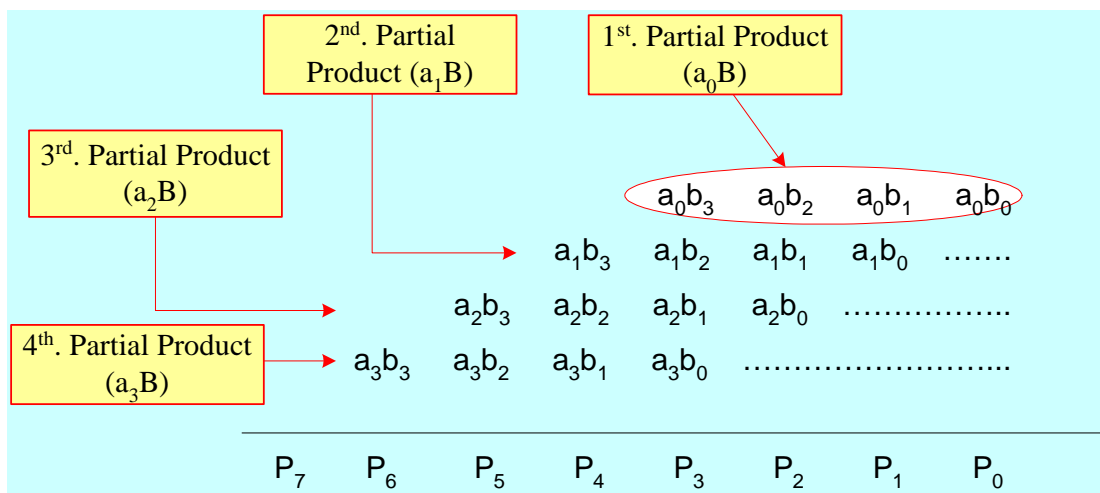

Figure 12.2: Binary Multiplication.
As in hand multiplication, we multiply the bits of the multiplier A ($a_3a_2a_1a_0$) by the multiplicand (B) starting from the LSB (a_0) to the MSB (a_3). This forms four partial products a_0B , a_1B , a_2B , and a_3B . The resulting partial products are added with each product shifted left by one bit position from its predecessor as shown in Figure 12.2.